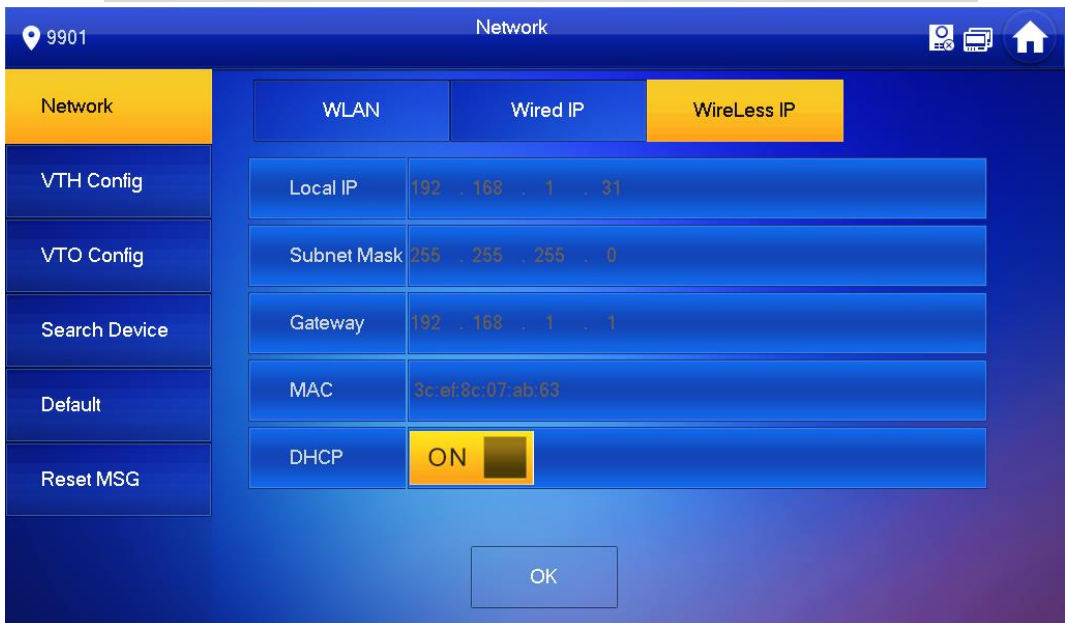

Figure 3-21
- ◇ At “WLAN” interface, select WIFI, click “Wireless IP” tab, press  OFF to enable DHCP function and obtain IP info automatically, as shown in Figure 3-21.